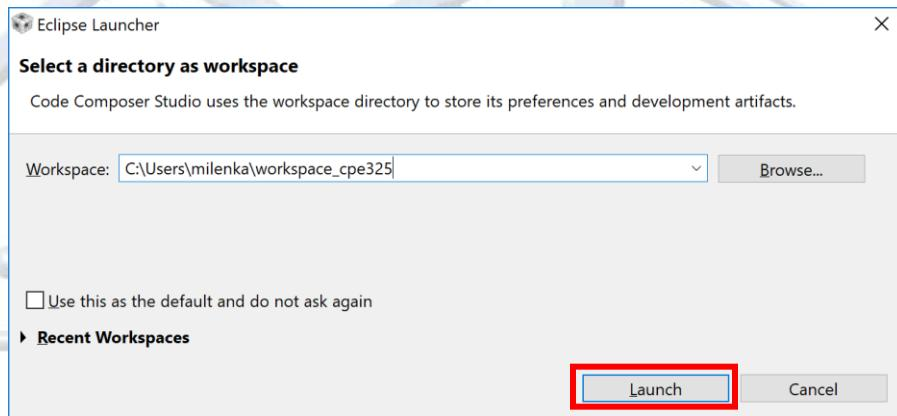
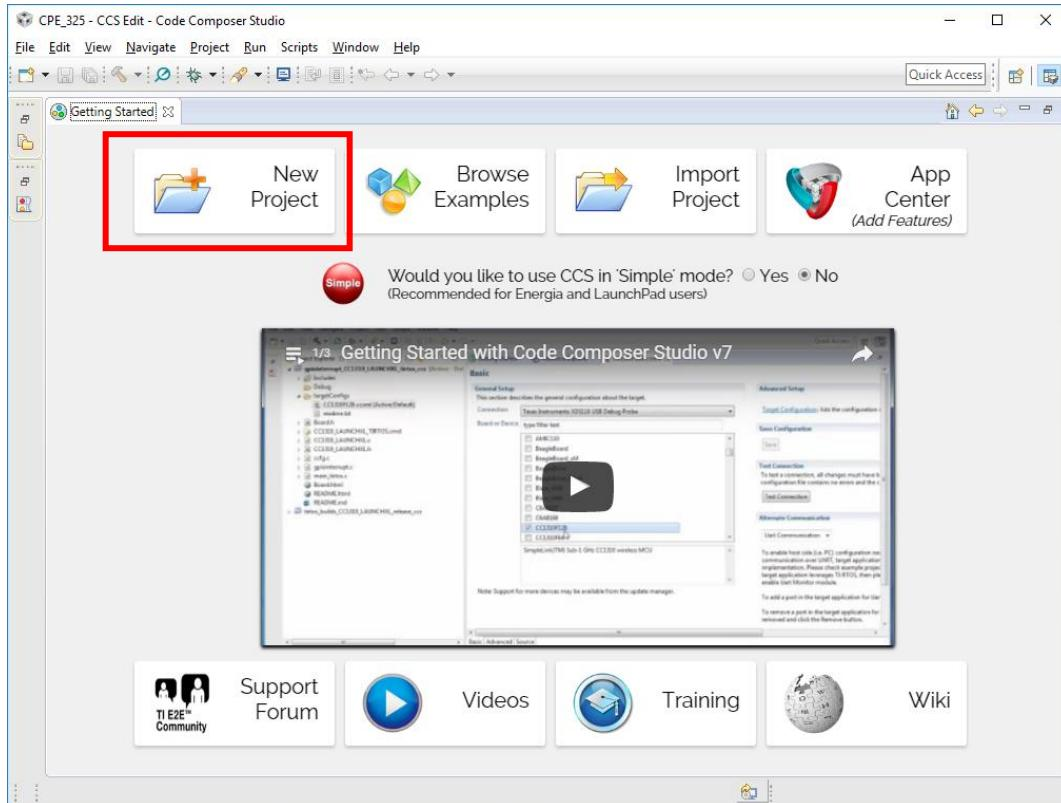

Figure 1. Eclipse Launcher
Figure 2. CCS Getting Started Page
Step 2. In the Eclipse Launcher select a directory to be used as the workspace (see Figure 1.) and press <Launch>. A *Getting Started* window will appear (Figure 2). This page provides links to example projects as well as documentation related to Code Composer and TI Microcontrollers.